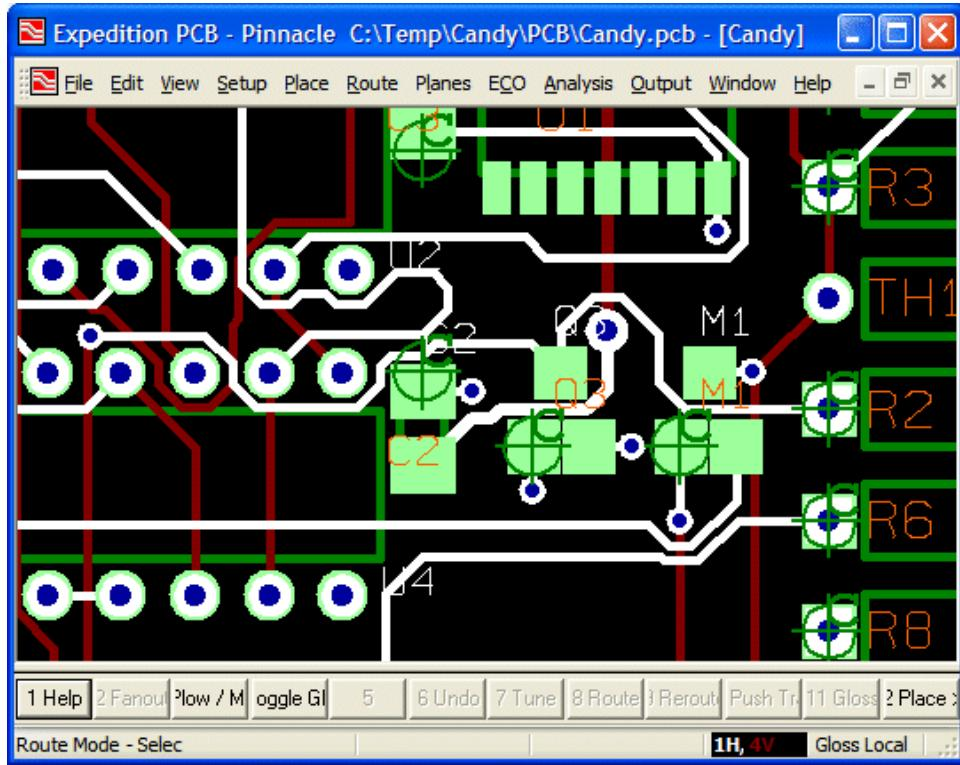

Figure 12-26. Zoom in on a portion of the design containing vias.
- 4) Zoom in on a portion of the design containing vias as illustrated in Figure 12-26.